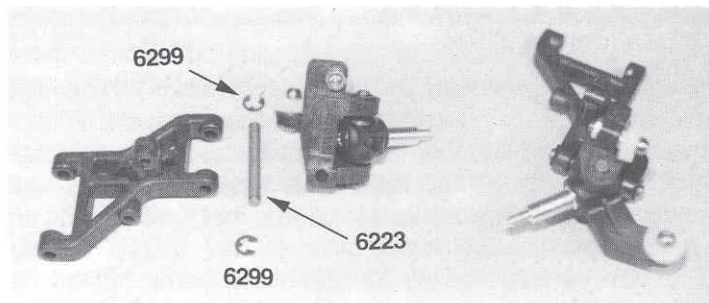

Fig. 13
□ **Fig. 13** 1) Now we need to remove four of the #6299 E-clips we put back in bag #8-1. We are now going to attach the front axle assembly to the front suspension arm. The shock mount will be on the front side of the arm and we will want the front of the axle assembly on the same side. 2) We will start with the left side. Use the block carrier with the "L" scribed into the front. Take one of the #6223 hardened steel pins and slide it through the rear hole of the suspension arm, then the axle block carrier, and finally through the front hole of the suspension arm. We want the pin to be tight when going through the axle block carrier, but not the arm. 3) Now center the pin and install a E-clip onto each end of the pin. 4) Repeat the above steps for the right arm and axle block carrier. Remember to keep the "R" to the front of the arm. Fig. 19 shows both front arms with the axle block carrier assemblies installed.